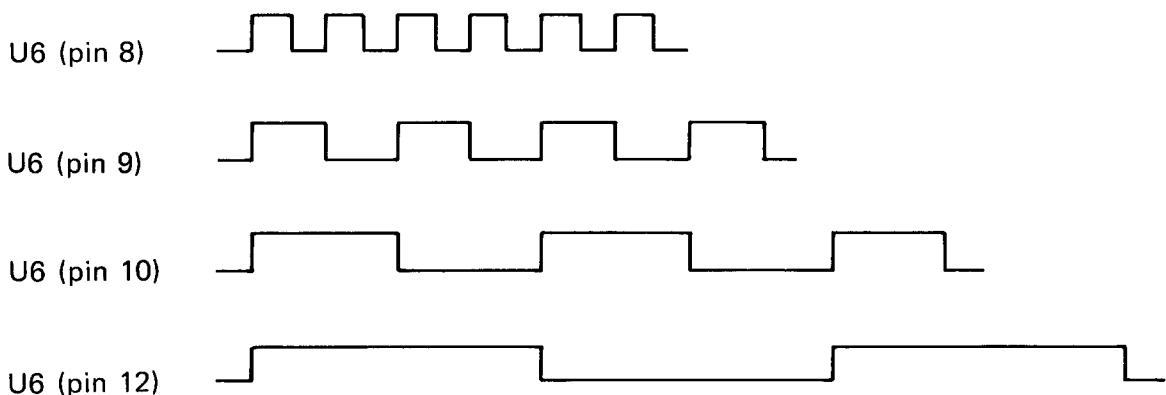

Figure 3-9. Counter Output Waveforms.
- b) Counter logic (see Figure 3-9)